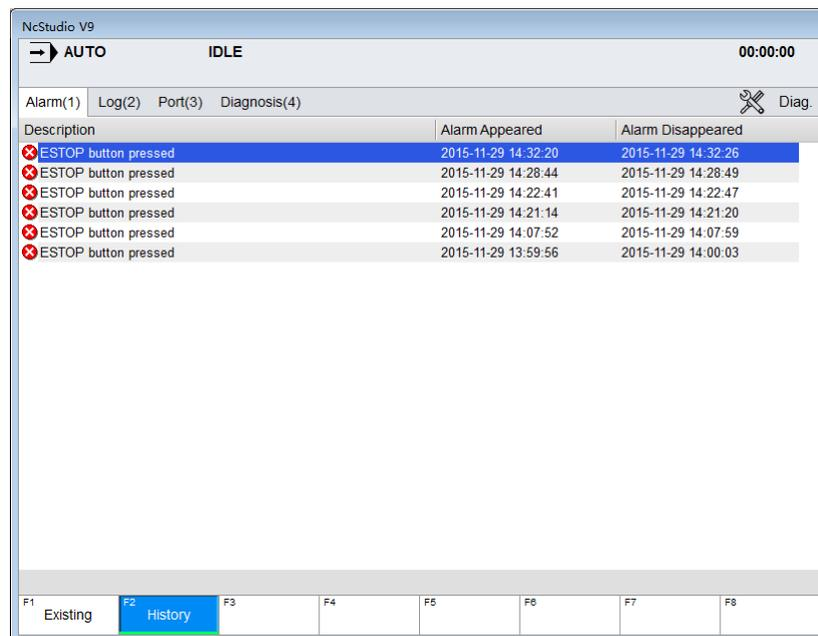

Fig. 3-62 Interface 「Alarm (1)」
Press  to access functional area [Diagnosis] and open interface 「Alarm (1)」, as shown in Fig. 3-62. What shown in the interface is alarm information, including “alarm description”, “alarm appeared” and “alarm disappeared”. You can press F1 and F2 in the operational button bar to choose to show the existing alarms or history of alarms.